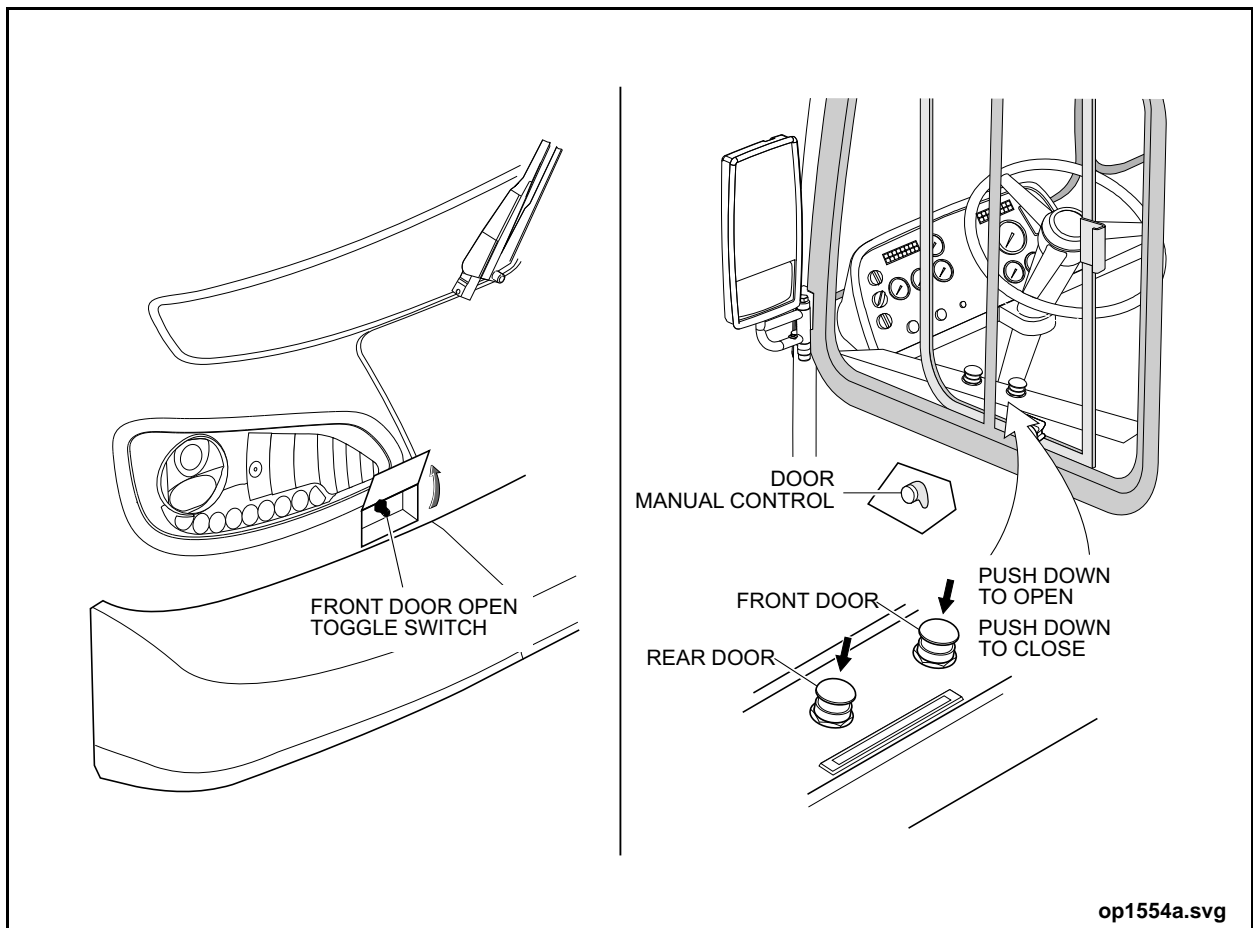

Figure 9: To Enter the Vehicle
2. Open the access door and operate the switch to open the door. See “Figure 9: To Enter the Vehicle” on page 27.